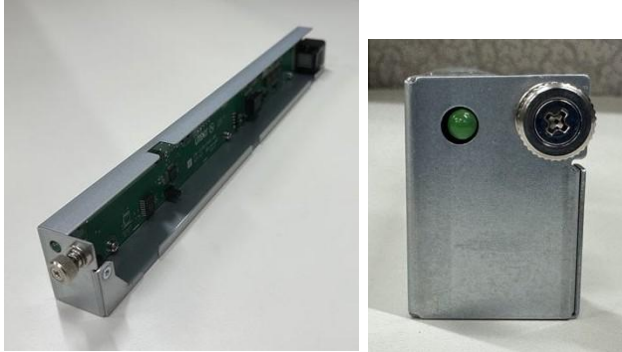
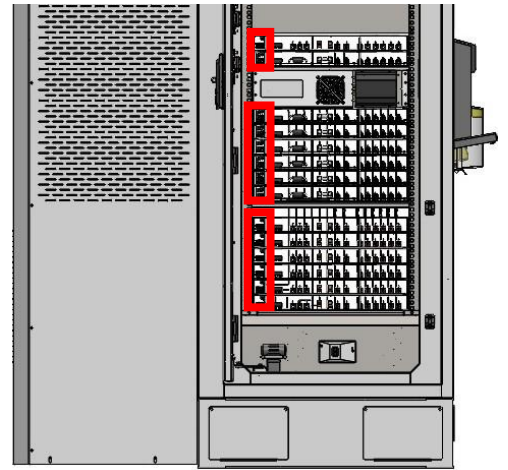
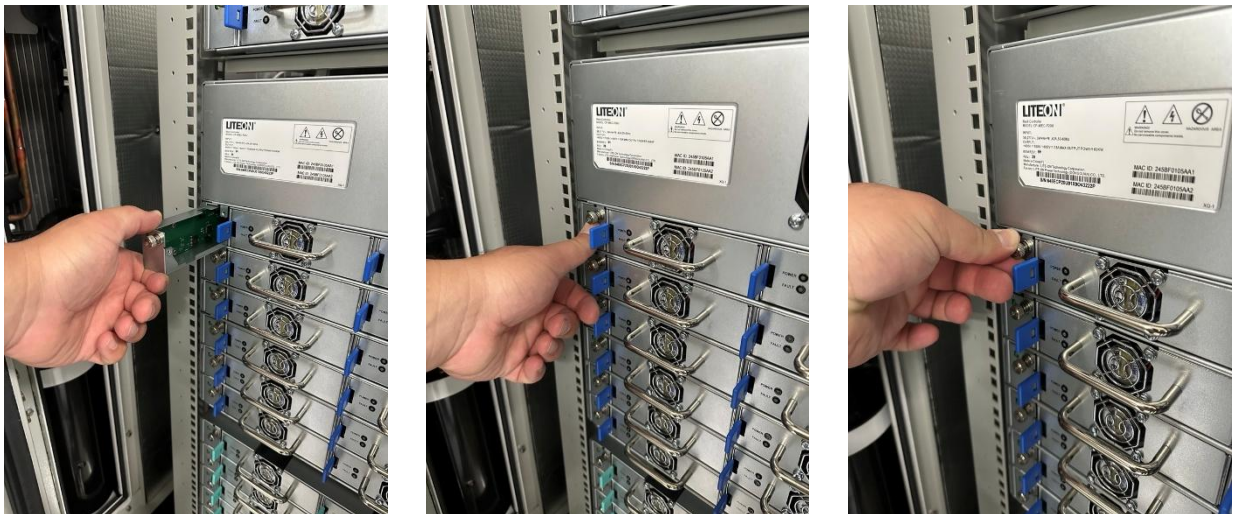

Figure 27 - Shelf Controller
Figure 26 – Empty shelves in charger's bottom power stack with six empty shelf controller slots highlighted
Figure 28 – Install and Secure Shelf Controllers
5. Also inside the left-side door and starting at the first open slot at the bottom-left of each of the charger's power stacks (Figure 26), insert 1 Shelf Controller (SC) (Figure 27) per shelf, including Heat Exchanger Controller shelves, and secure each one with its built-in screw (Figure 28).